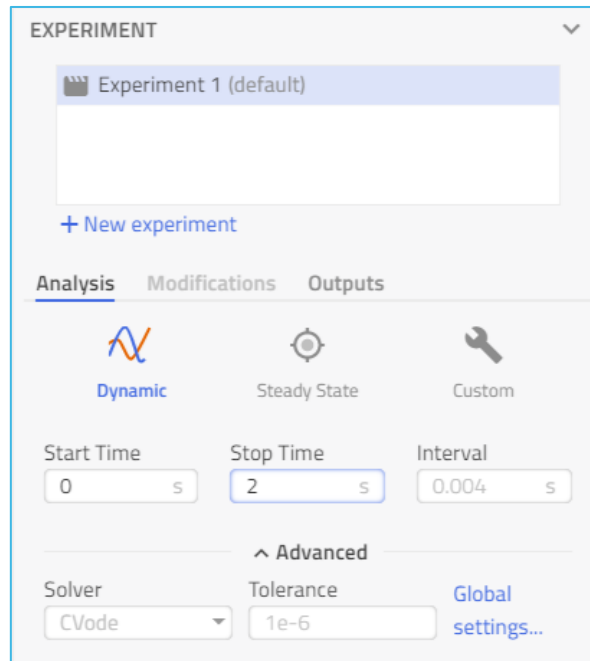

Figure 16 Simulation settings browser
12. Set the simulation stop time to 2 seconds as shown in Figure 16. This will update the default experiment *Experiment 1*.